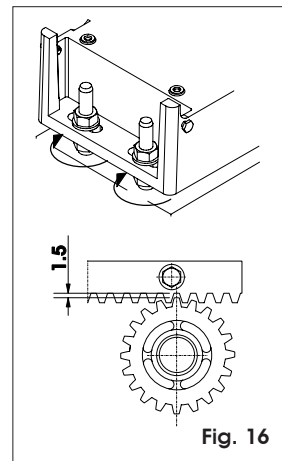

Fig. 16
- When the rack has been installed, to ensure it meshes correctly with the pinion, we advise you to lower the gearmotor position by about 1.5 mm (Fig. 16).